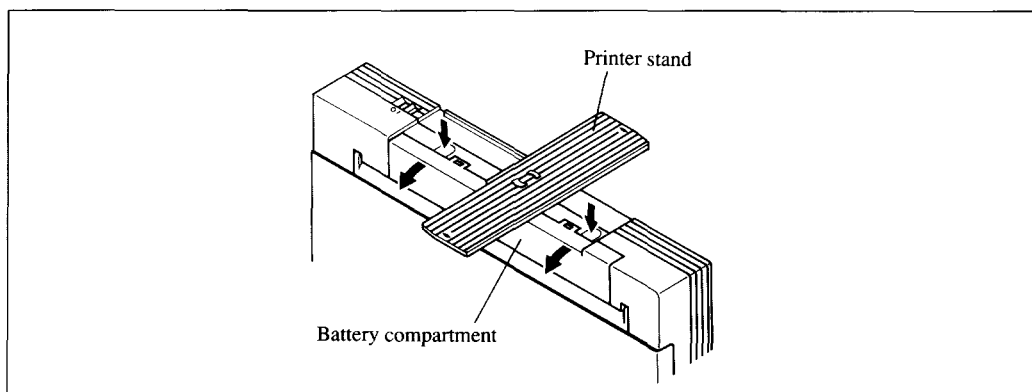

Figure 2-3. Open the battery compartment after turned the printer upside down and the printer stand.
2. Open the battery compartment by pushing the two recesses as shown in Figure 2-3.